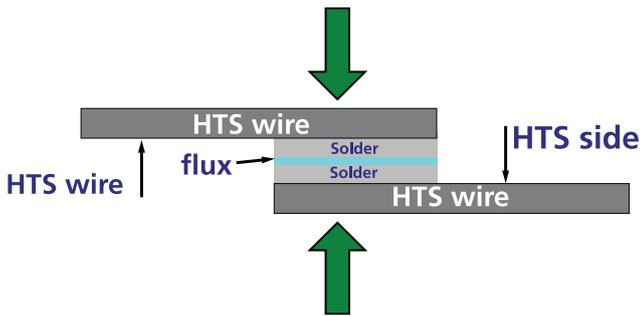

Figure 9. Strap splice preassembly
- c. Position the two wires together with the tinned surfaces facing up and desired gap between them. Place the strap wire on top of the two wires so that it bridges the gap as shown below in Figure 9.